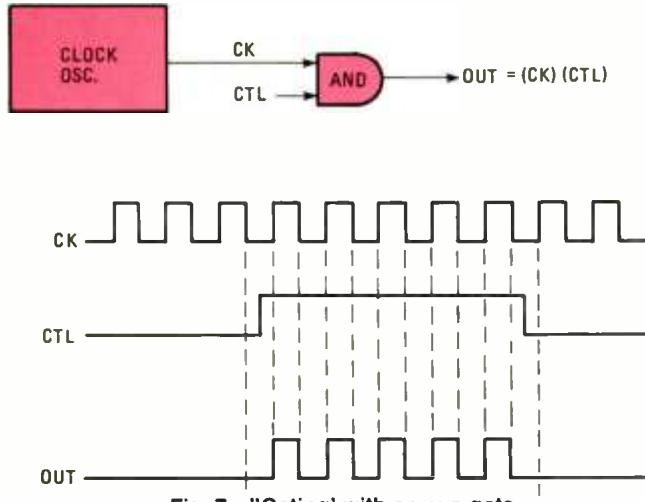

Fig. 7—"Gating" with an AND gate.
One of the most common applications for an AND gate is gating input. Figure 7 illustrates the concept. Here a clock signal from an oscillator clock (CK) is applied to one input. A control signal (CTL) is applied to the other. The purpose of the control signal is to literally open or close the gate. When the CTL signal is binary 0, the gate is closed. Any time an input to an AND gate is binary 0, the output is correspondingly a binary 0.